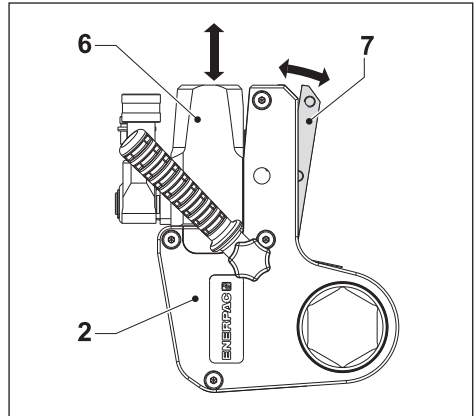

Fig. 4
(Fig. 4 and 5)
3.3.2 To Attach the Cassette (Fig. 4 and 5)
- Pull the release lever (7) outwards.
- Be sure the retract link (11) aligns with the slot (13) in the ratchet lever. Rotate the piston rod if necessary.
- Slide the drive unit onto the cassette and push the spigot (12) through the opening in the drive unit locating plate (14).
- Push the release lever (7) back into the cassette (2). Be sure the ball detent clicks into place. Check that cassette release lever is fully closed.